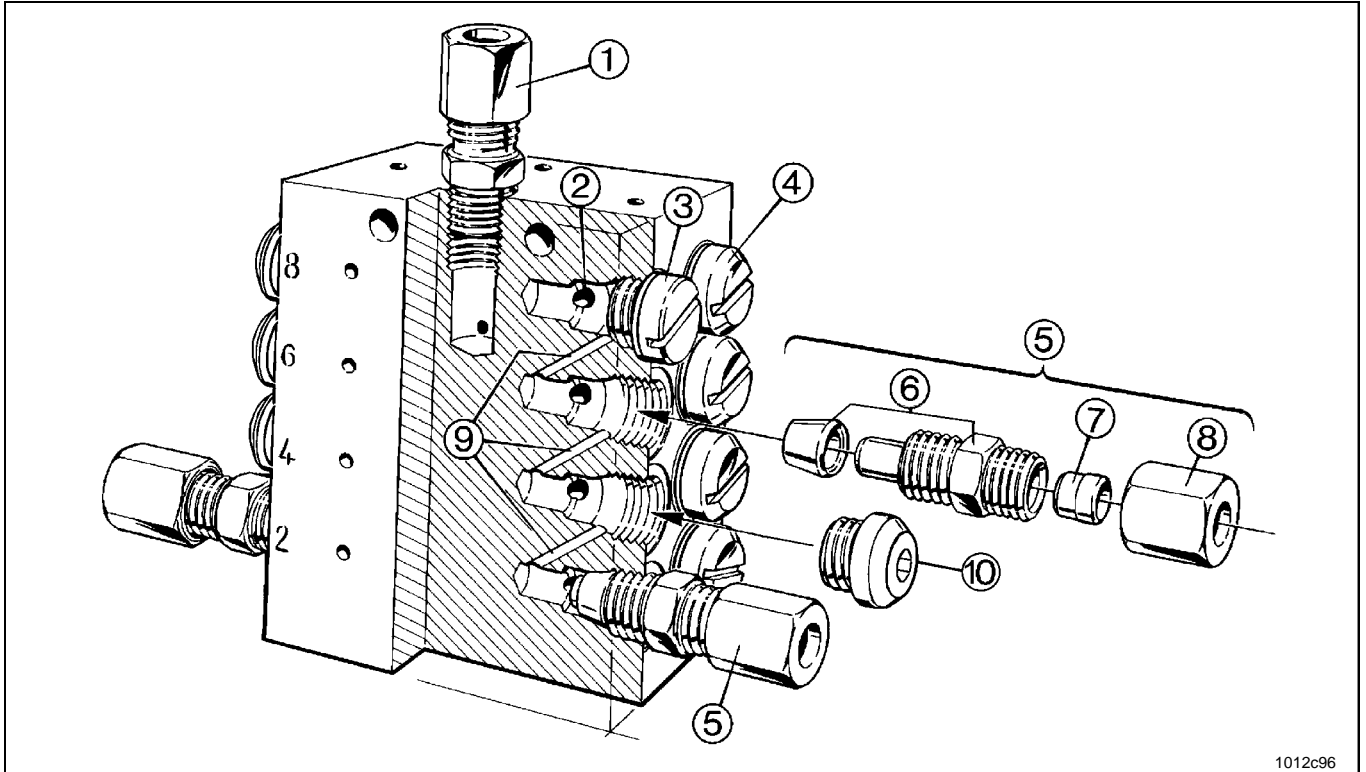

Fig. 26 Install the outlet fittings and closure plugs in accordance with the dosage
- Install an outlet fitting assembly 5 (M 10x1) in each outlet borehole which will be used. Refer to Fig. 26, 27, 28.
Always use valve body (Fig. 26) in conjunction with clamping ring.
- Clamping ring (Fig. 26) closes the junction channels 9 to the other outlet channels.
In the case of construction, machines or agricultural machines use high-pressure hoses for the lubricant feed lines. In this case, secondary metering devices (see Fig. 26, page 17) must also be equipped with check valves with reinforced collet.